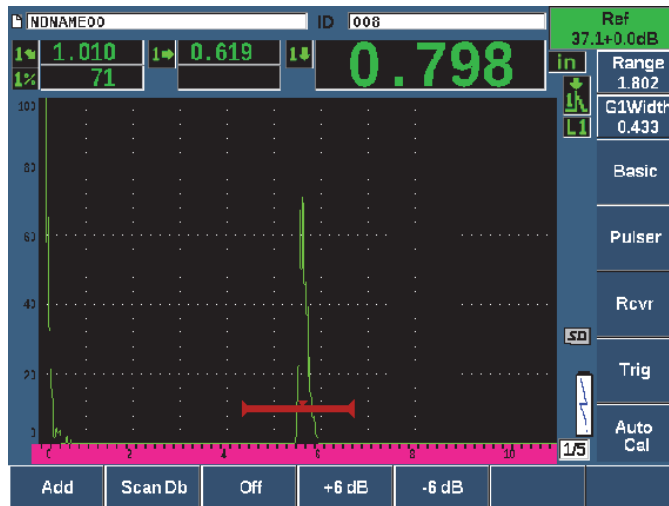

Figure 3-18 Reference gain setting
4. Set the sensitivity using “Calibrating for Sensitivity” on page 185 (See Figure 3-18 on page 79).